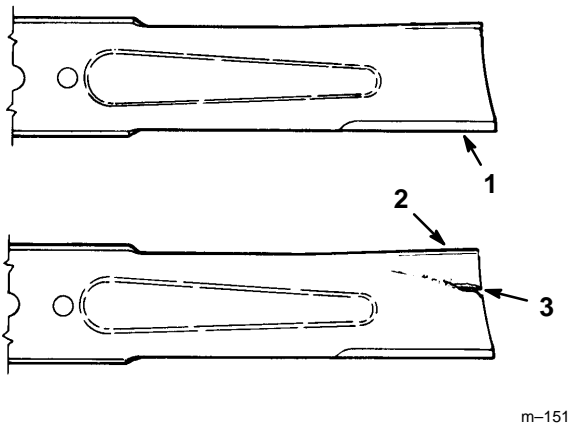

Figure 17
1. Inspect the cutting edges (Fig 17). If the edges are not sharp or have nicks, remove and sharpen the blades. Refer to Sharpening the Blades on page 33.
2. Inspect the blades, especially the curved area (Fig. 17). If you notice any damage, wear, or a slot forming in this area (item 3 in Fig. 17), immediately install a new blade.